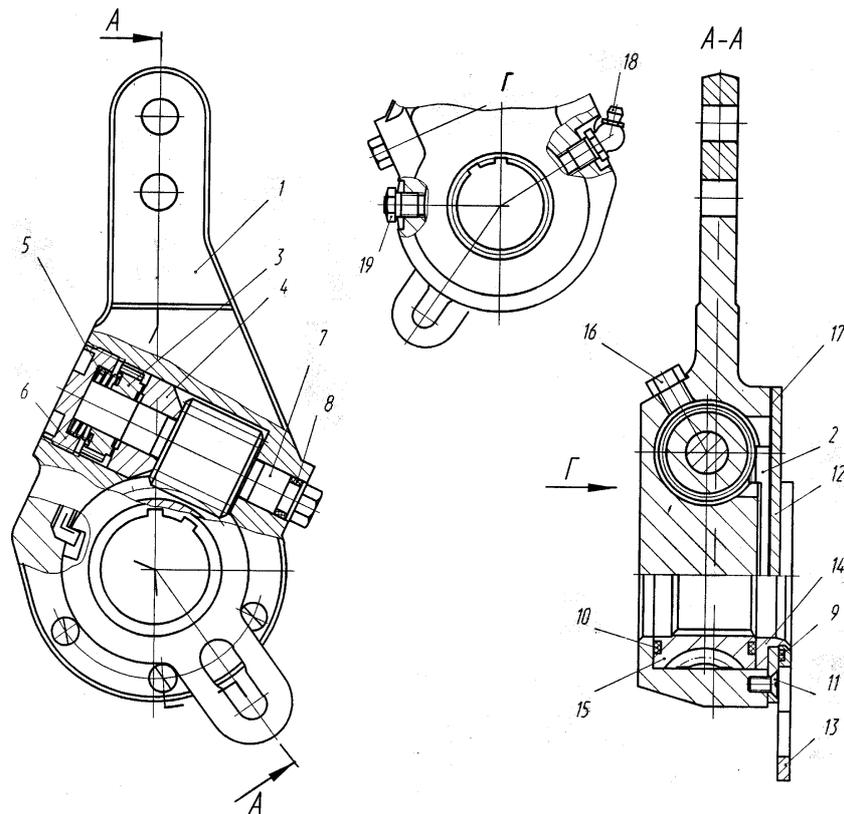

Fig. 12. Automatic adjusting lever:
The truck is equipped with adjusting levers (Fig. 12) with automatic adjustment of the gap between the shoe lining and brake drum. Therefore, no adjustment of the gap between them is performed during the operation. The stroke of rods of the brake chambers shall be within the range 28 to 34 mm.
The symptom of irregular operation of the lever with the automatic gap control is increased stroke as well as turning of the worm 7 (Fig. 12) in both direction (in case of regular operation - in only one direction).
The maintenance of the adjusting lever (Fig. 12) consists in changing the lubricant in the internal cavities with cleaning and washing the parts.
*When mounting the adjusting lever with the pressure lubricator 18 (Fig. 12), the lubricator shall be performed through the pressure lubricator without disassembling the lever.